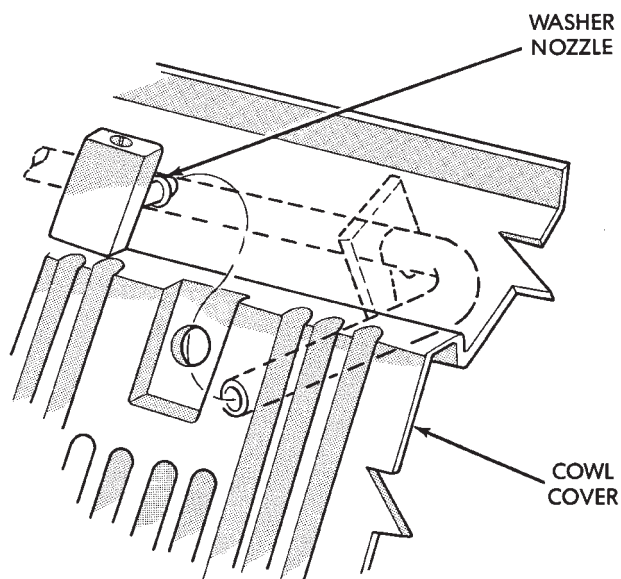

Fig. 18 Washer Fluid Tubes
(4) Remove windshield washer tubes from nozzles (Fig. 18).
(1) Position cowl grille on cowl. Install windshield washer tubes on nozzles (Fig. 18).
(2) Install cowl grille retaining screws.